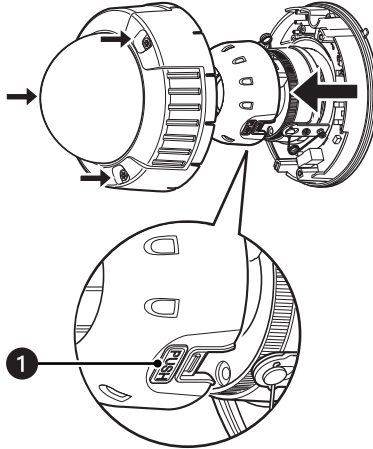

Figure 29. Detaching the Inner Dome
- b. Detach the inner dome while pushing the sides with the PUSH marks (refer to Figure 29).